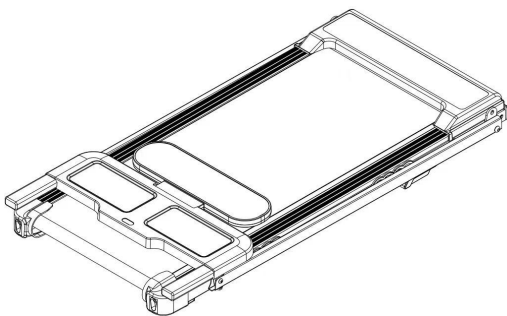

Figure 1
Step 1:As shown in (Figure 1), remove the treadmill from the carton and place it on a clear floor.